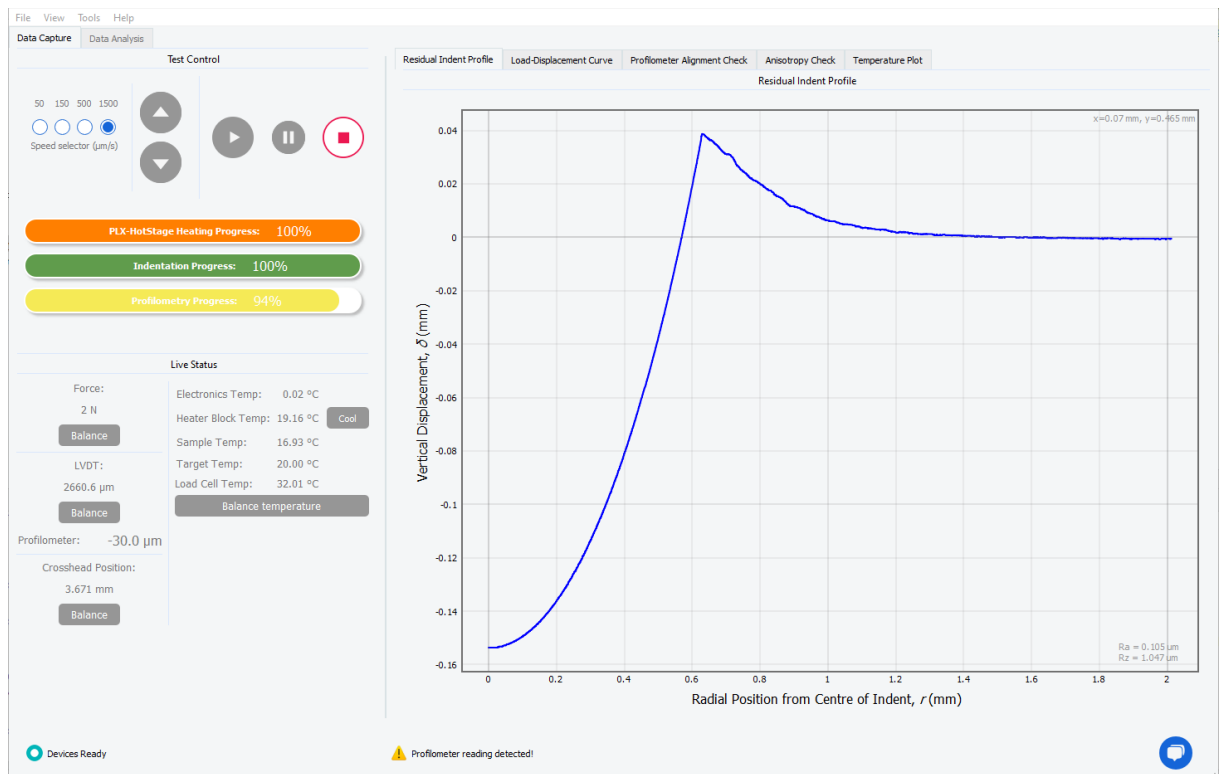

Figure 3.13 Residual indent profile shown in CORSICA post profilometry
15. The profilometer will touch down on the sample surface. A quick search for the precise indent centre is carried out. The profilometer scans the indent. After completion of the scan, the resultant profile is displayed as shown in Figure 3.13.